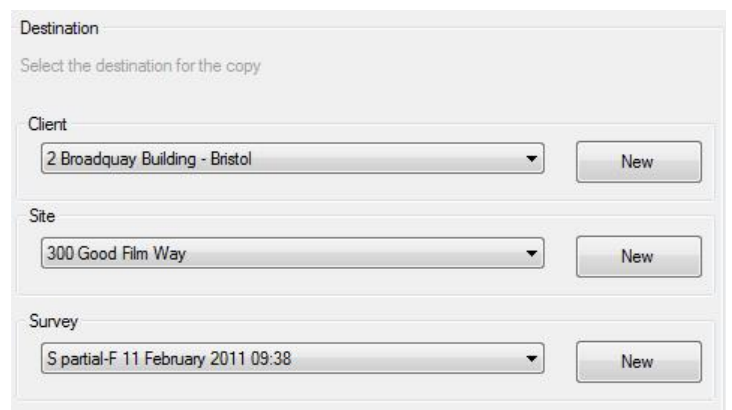

Figure 3.24 Confirming the Survey details
10. Review the Client, Site and Survey dropdown boxes to confirm the client, site and survey where you want to import the selected file (Figure 3.24). You can also press **New** to define new details.